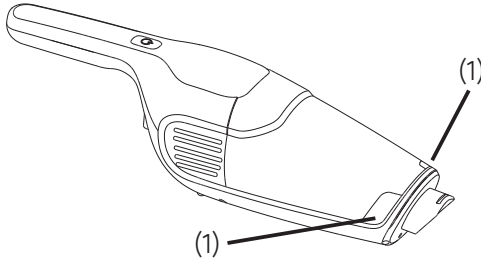

Fig. 6-1
1) Detach the accessory on the sub-unit, and then press down left & right release button (2) of dust cup (1) at the same time to make it be separated from the sub-unit. (see Fig 6-1)